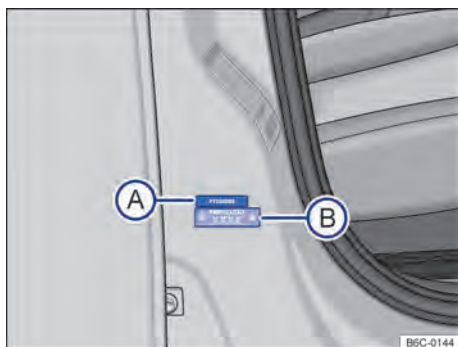

Fig. 207 In the lower area of the front right door pillar: vehicle partial identification number label (A) and manufacturing year plate (B).
The plates (VIS) are located on the lower area of the front right door pillar → Fig. 207 (A) and in the engine compartment on the driver side, in the suspension strut. These plates are destroyed when removed.
The manufacturing year identification plate is located on the lower area of the front right door pillar → Fig. 207 . This plate is destroyed when removed.